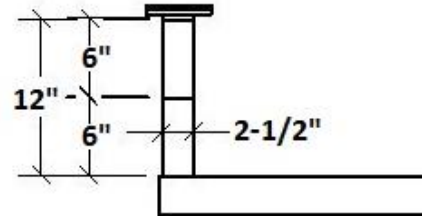

FIGURE 19 : MAXIMUM HEIGHT OF EXTENSION SOCKETS
6. NEVER EXCEED 12" HIGH OF EXTENSION SOCKETS. See **FIGURE 19**.